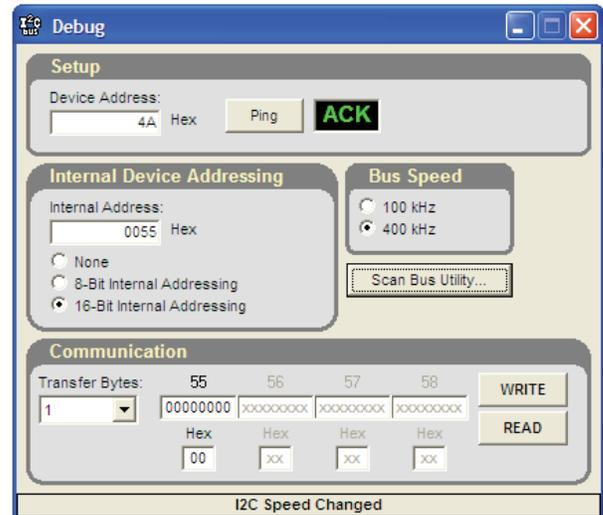

Figure 32. I2C Debug Window
7. Click on the **View** menu, and select the **Debug** window. Then, click on **I2C Debug**. The window shown in Figure 32 opens.
8. Enter the I2C address set by Jumpers M2 to M0 on the AD9548 evaluation board, and click **Ping**. You should see a green **ACK** message as shown in Figure 32. Repeat this step for the I2C address of the target AD9548. If **ACK** is returned for both addresses, the remote AD9548 is ready to be programmed.